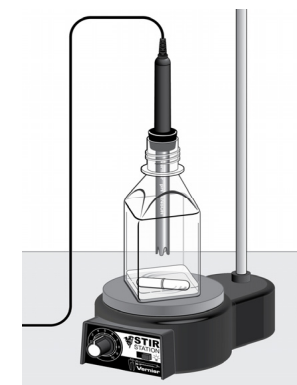

Figure 2
5. The 250 mL fermentation chamber and #6 split stopper included with the sensor provide a convenient setup as shown in figure 2. Place the chamber on a stir plate to keep the sample moving. Wrap the stopper around the sensor, rather than sliding it on or off. Sliding the stopper on or off may result in the tip coming off and potentially being lost. When students are placing the probe in the fermentation chamber, they should gently twist the stopper into the chamber opening. **Note: The sensor is a gas sensor. It should never be submerged in liquid.**